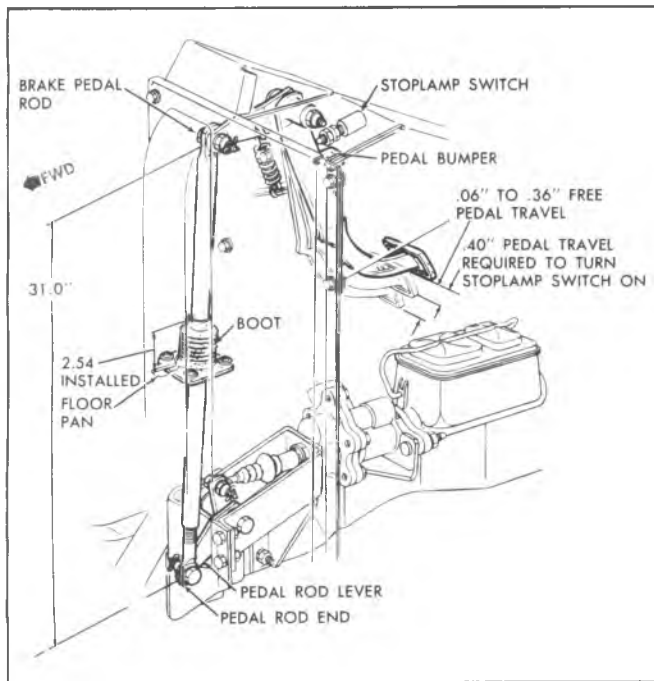

Fig. 5-13--Brake Pedal and Stop Lamp Adjustment P30(32) Model
##### Replacement (Fig. 5-13)
11. Fasten the boot to the floorpan and compress the boot to 2.54" (65 mm) installed height; tighten the boot to 2.54" (65 mm) installed height; tighten the boot screws to 13-18 lb. in. (1.5 - 2.0 N·m). (Refer to Figure 5-13).